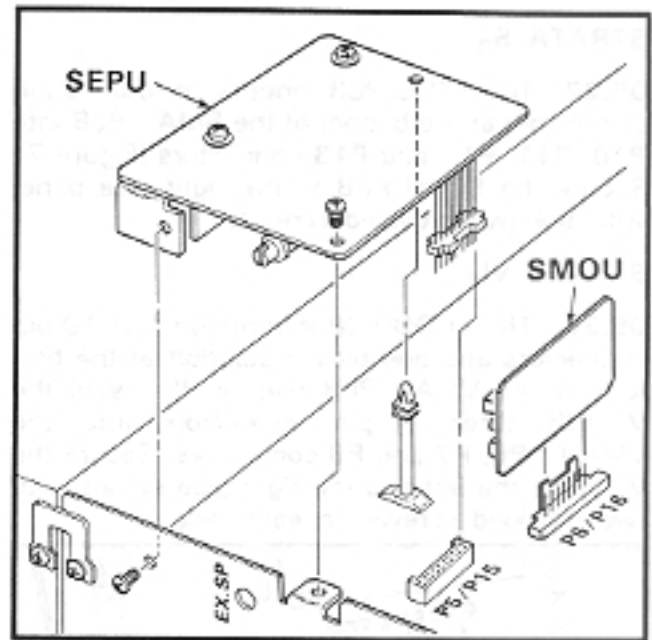

FIGURE 11—S_e/V_Le SEPU and SMOU LOCATIONS
05.52 Install the SMOU PCB into connector P6 on the upper center of the SMAU PCB (Figure 11).
05.53 Install the SMOU PCB into connector P16 on the upper center of the VMAU PCB (Figure 11).
05.62 Install the SEPU into connector P5 on the SMAU PCB (Figure 11). Slide the SEPU's corner hole over the white, plastic standoff support. Secure the SEPU to the left side panel with two screws.
05.63 Install the SEPU into connector P15 on the VMAU PCB (Figure 11). Slide the SEPU's corner hole over the white, plastic standoff support. Secure the SEPU to the left side panel with two screws.